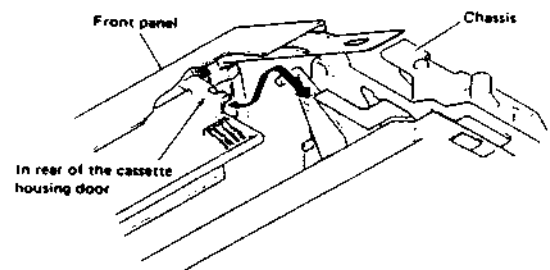

Fig.1-1-9 Cassette housing door
3. Install the front panel as shown in Fig.1-1-9 and re-engage the tabs. Supply power and use a spare cassette to check for normal loading and eject operations.